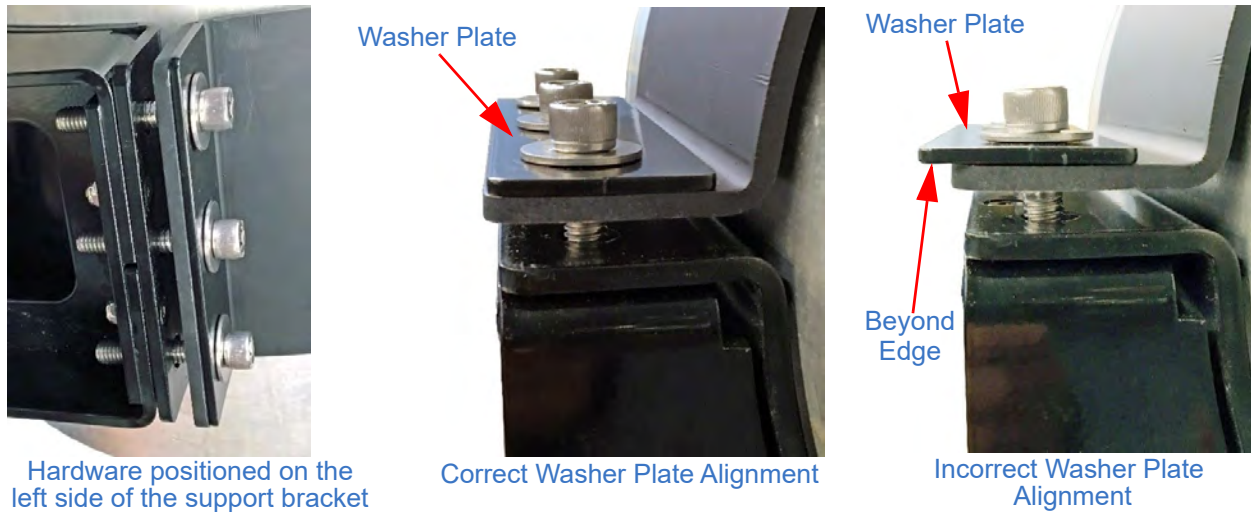

Figure 5-15 Hardware Positioning and Alignment
c. On the left side of the external support bracket, align the hardware from outside in as follows (Figure 5-15):
- d. The washer plate should be aligned so that its outside edge is flush with the outside edge of the support bracket clamp (Figure 5-15). If the outside edge sticks out beyond the edge of the support bracket clamp (Figure 5-15), it is installed backwards and needs flipped.